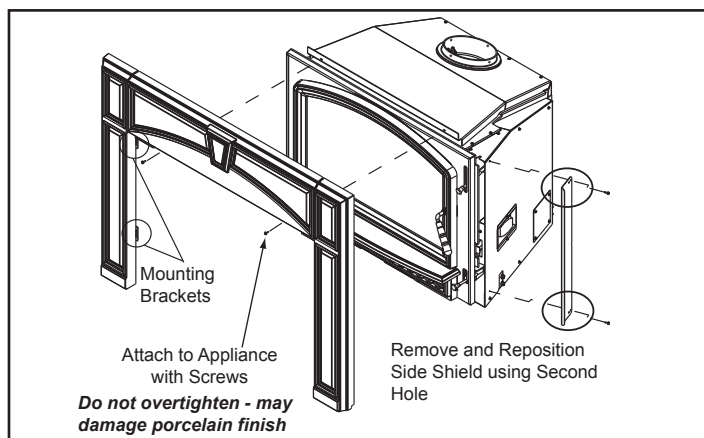

Figure 21.6
5. In order to get a tight seal for the surround, you must reposition a side shield. There are two holes on the shield and it will come from the factory secured in the first (left) hole. Remove the shield and re-install using the second (right) hole. **Figure 21.6.**